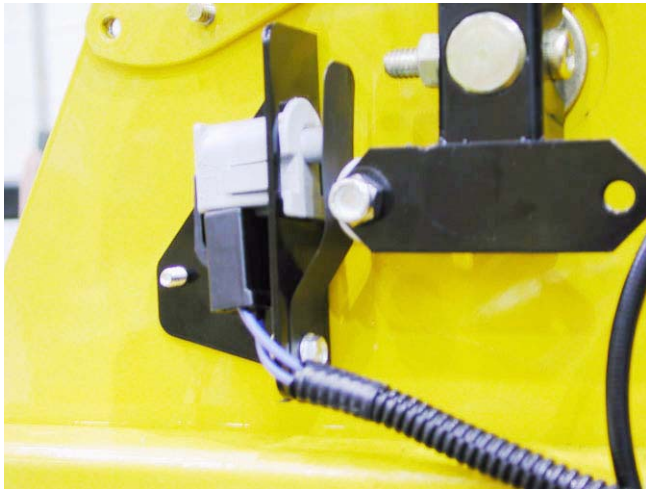

Figure 10.9
10.9. Each reverse switch is located “down-stream” of the PTO switch. They are normally closed (N.C.). If the contacts of both switches are opened (lap bars in non-forward position) power is interrupted to the PTO clutch, stopping the blades. See Figure 10.9.